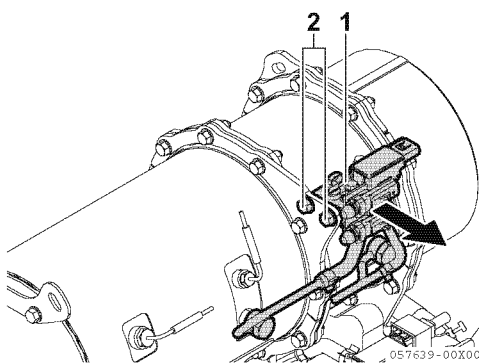

Figure 13-17
- Loosen the sensor bracket (Figure 13-17, (1)) M8 flange bolts (2 pcs.) (Figure 13-17, (2)) that mount the exhaust differential pressure sensor and the exhaust temperature sensor coupler, and remove.